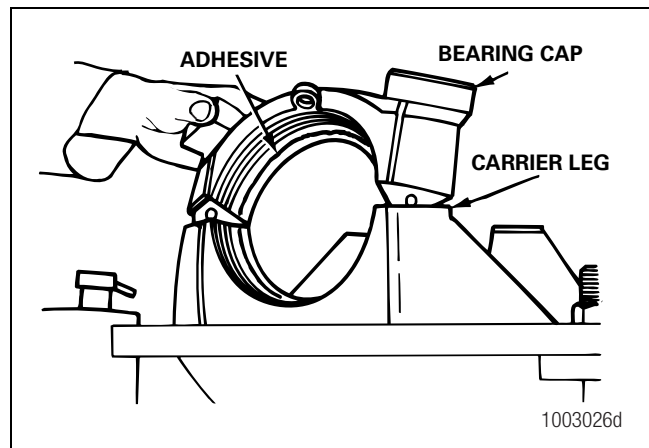

Figure 5.46
3. Apply green Loctite® 635 or 680 adhesive into the bearing bores of the carrier legs and bearing caps so that the Loctite® adhesive is spread out 360 degrees. Adhesive must not contact the adjusting ring threads. Refer to Section 6. Figure 5.46.